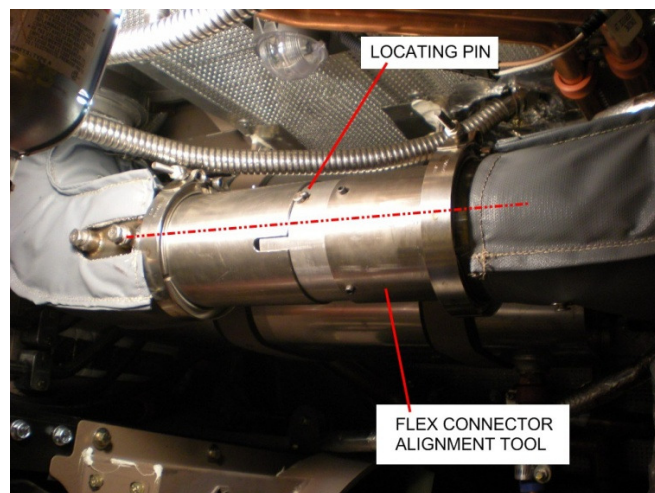

Figure 2: Flex Connector Alignment Tool
6. Rotate both ends of the alignment tool until it locks into the expanded position (locating pin should be out of the slot and in contact with edge of the slotted end of the tool). Make sure that the flanged end of the exhaust tubes are properly seated to the tool. See Fig. 2.